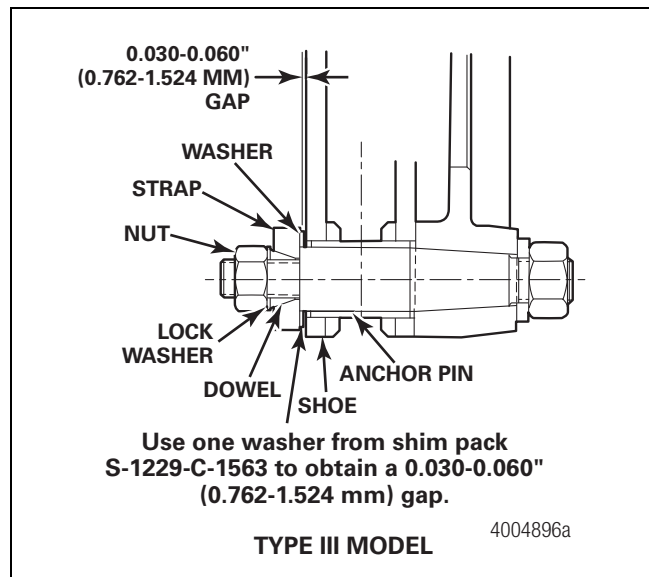

Figure 5.31
- H. Check the gap between the brake shoes and strap. Figure 5.31.